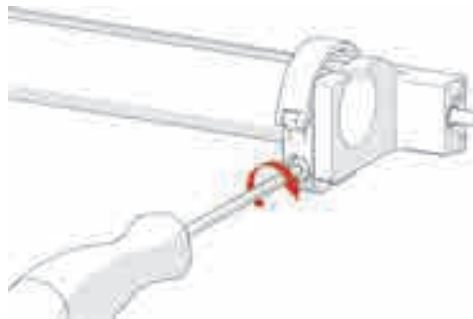

Figure 4-136 Tighten clamp screw
5. Tighten the clamp screw (see Figure 4-136 on page 193).